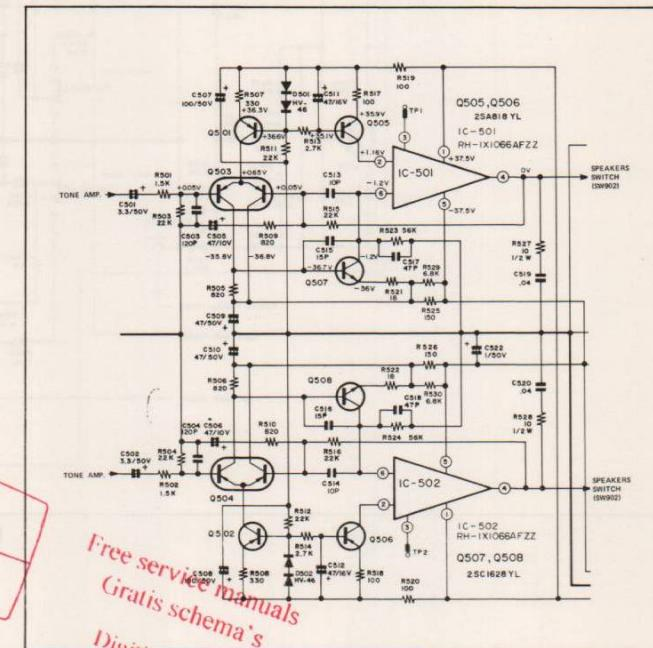

Figure 6
■ MAIN AMPLIFIER CIRCUIT (See Figure 6)
■ METER CIRCUIT (See Figure 6 and 7)